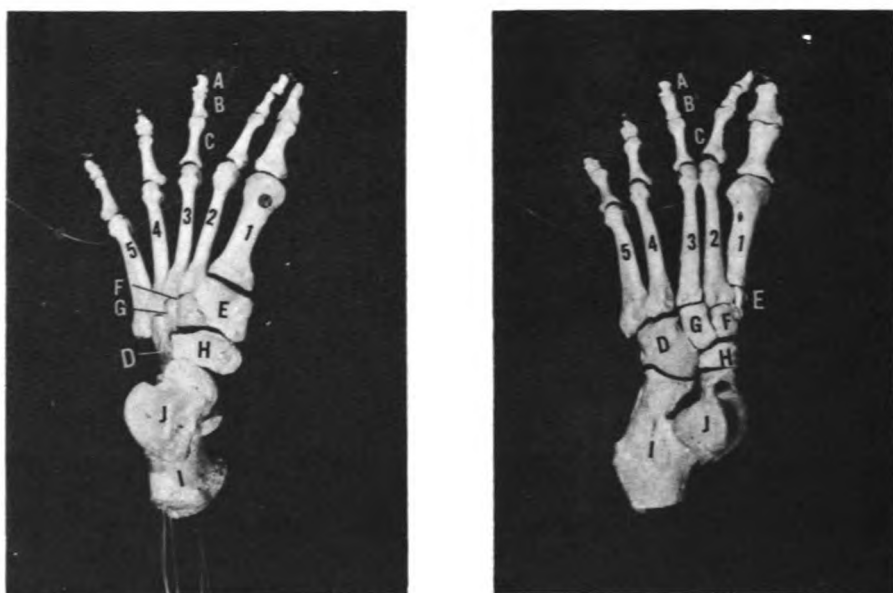

Figure 4-11 The Foot
three phalanges; the distal (A), the middle (B), and the proximal (C). The great toe has only two as in the thumb, distal and proximal. The foot, however, has five METATARSALS instead of metacarpals. Also they are numbered just the opposite to those in the hand. You start from the medial side of the foot and count laterally. The metatarsal that articulates with the great toe is 1, then 2, 3, 4 and 5. You can easily feel these metatarsals through the top of your foot. The top of your foot is known as the DORSUM. The bottom of your foot or the sole is known as the PLANTAR surface. The foot does not have a wrist-type joint, but it does have seven bones that compare to eight carpal bones in the wrist. These bones in the foot are known as TARSAL BONES. They are the CUBOID (D), FIRST CUNEIFORM (E), SECOND CUNEIFORM (F), THIRD CUNEIFORM (G), THE NAVICULAR (H), CALCANEUS (I), AND THE TALUS (J) as shown in Figure 4-11.
It is important for you to see and realize the triangular shape of the foot. The joints between the tarsal bones will not be straight up and down but angled slightly away from the ankle joint toward the toes (Figure 4-11).